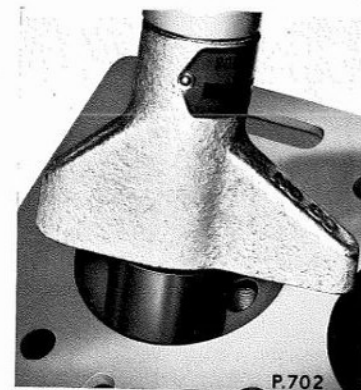

Fig. B.79. Correct location of the Churchill Adaptor R.G.10A-6 on the cylinder head valve seating, during valve guide renewal
- To remove a valve guide from the cylinder head, insert the centre bar, STN.6658 down through the combustion chamber and the valve guide bore until it is possible to screw the knurled nut on to the lower end of the centre bar, noting that the taper face of the adaptor, R.G.10A-6 registers squarely on the valve seating (see Fig. B.79). Withdraw the valve guide through the combustion chamber and when clear of its housing remove the main tool complete with valve guide from above. Release the knurled nut and slide off the valve guide from the centre bar of the tool. Repeat this procedure to remove all remaining valve guides.
body of the main tool as it assumed during the removal operations. Insert the centre bar, STN.6658 down through the combustion chamber and the housing for the guide until it protrudes below the cylinder head sufficiently to allow the valve guide, followed by the locating adaptor R.G.10A-5A, Code 1 (inlet valve guide), or R.G.10A-5A, Code 5 (exhaust valve guide) to be fitted over the centre bar of the tool. Finally screw the knurled nut on to the threaded end of the centre bar. Ensure the adaptor, R.G.10A-6, registers squarely on the valve seating (see Fig. B.79). Draw the valve guide into position, noting that when the guide is drawn in to the depth of the locating adaptor it automatically assumes the correct height above the spring seating. Repeat this procedure to refit the remaining valve guides.